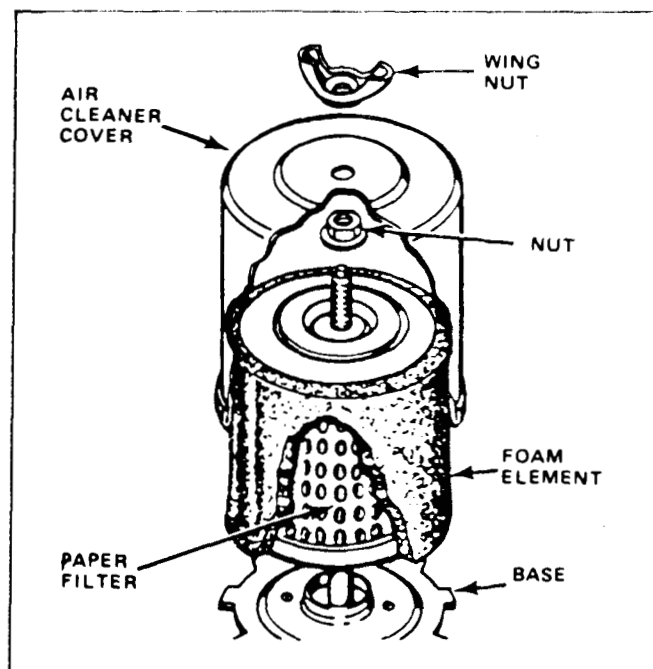

Figure 2
2. Unscrew the wing nut and remove the air cleaner cover. Slide the *foam* element off the paper cartridge. See Figure 2.